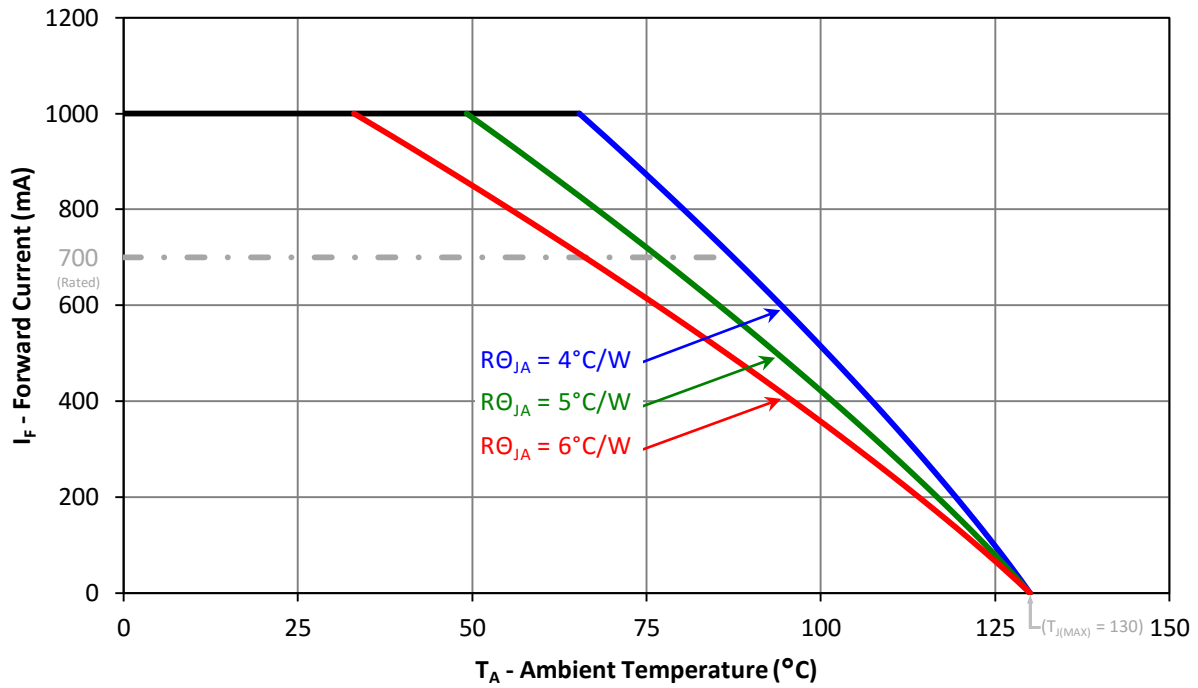

Figure 11: Maximum forward current vs. ambient temperature based on  $T_{J(\text{MAX})} = 130^\circ\text{C}$
1. Maximum DC forward current is determined by the overall thermal resistance and ambient temperature. Follow the curves in Figure 11 for current derating.
Notes for Figure 11: